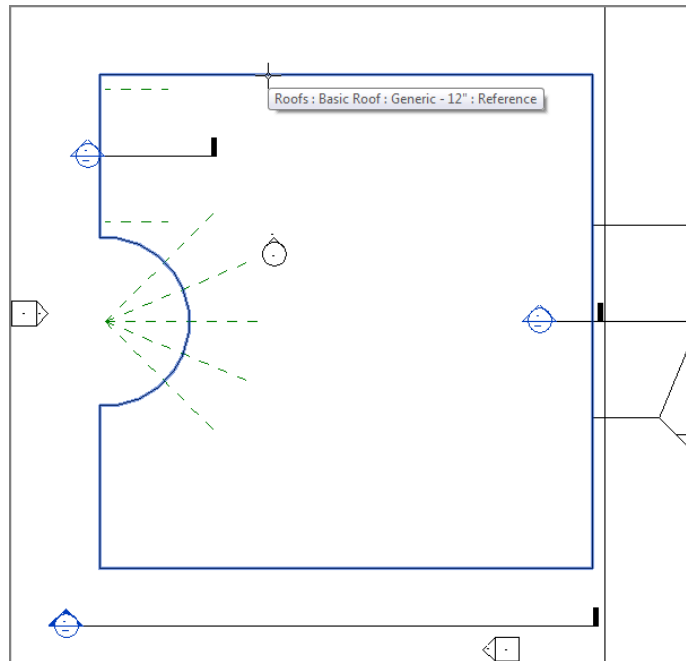

FIGURE 12.74: Picking the roof. Your work plane is now set to slope with the roof. Anything you draw will be on this sloping plane.
5. Pick the roof, as shown in Figure 12.74.